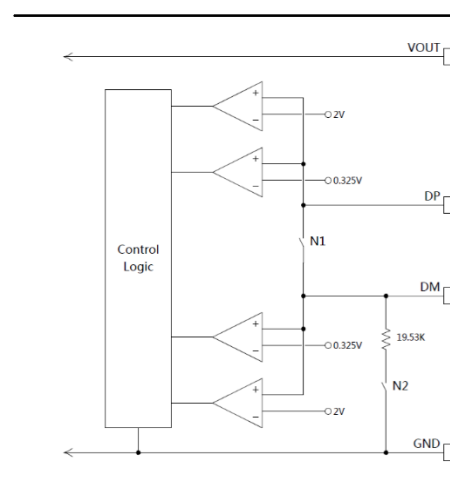

Figure1. Internal functioning blocks of QC3.0 protocol detection on DP and DM pins
After power startup, ETA7901 turns on internal switch N1 short-circuiting DP and DM for the initial handshake between AC-DC adapter (DCP) and powered device (PD) as described in the USB Battery Charging specification revision 1.2. After the USB BC 1.2 handshake is completed, ETA7901 will turn off the internal switch N1 if it detects a Quick Charge 3.0 or Quick Charge 2.0 compliant PD. At this point the Quick Charge 2.0 handshake followed by the Quick Charge 3.0 handshake can take place as described in the Quick Charge 2.0 and Quick Charge 3.0 protocol specification. Upon completion of the Quick Charge 2.0 and Quick Charge 3.0 handshakes, ETA7901 will turn on the internal switch N2 connecting a 19.53 k $\Omega$  pull-down resistor to pin DM. Please refer to figure 1 for internal blocks mentioned above.